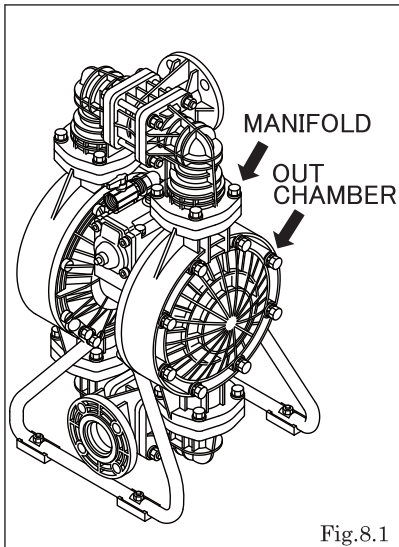

Fig.8.1
- Retighten the Out chamber and then the manifold in this order. [Fig.8.1]